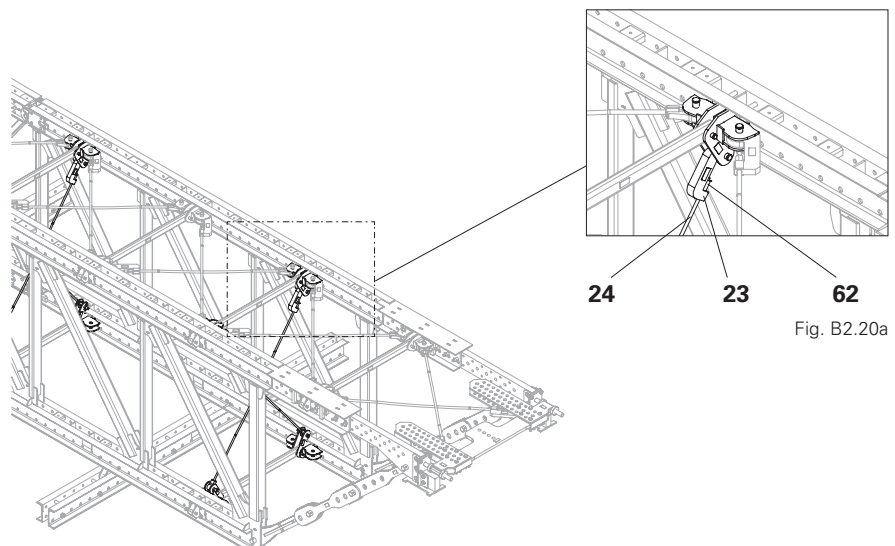

Fig. B2.20
4. Swivel the eye nut (22) diagonally opposite into the vertical bracing shoe (13) in the bottom chord.
5. Fix the eye nut in position with bolts (55) and secure with cotter pins (50).
6. Tighten all nuts (62) on the articulated spanner with a wrench and adjust the bracing struts so they are free of play. (Fig. B2.20)